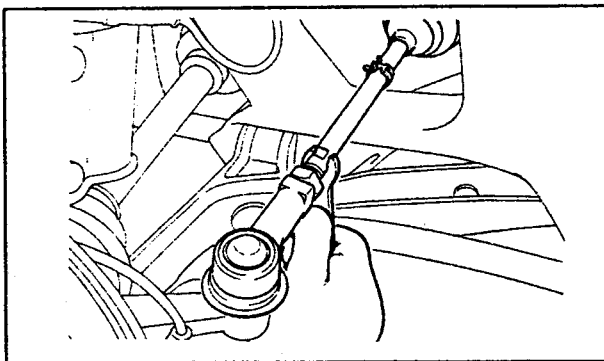

Fig. 10.12. — Adjusting the toe-in
- To correct the adjustment, slacken the locknut in Fig. 10.12 of both track rods and slacken the outer retaining clamp of both steering gaiters. Turn both track rods with an open-ended spanner. Half a turn of the track rod will alter the setting by approx.